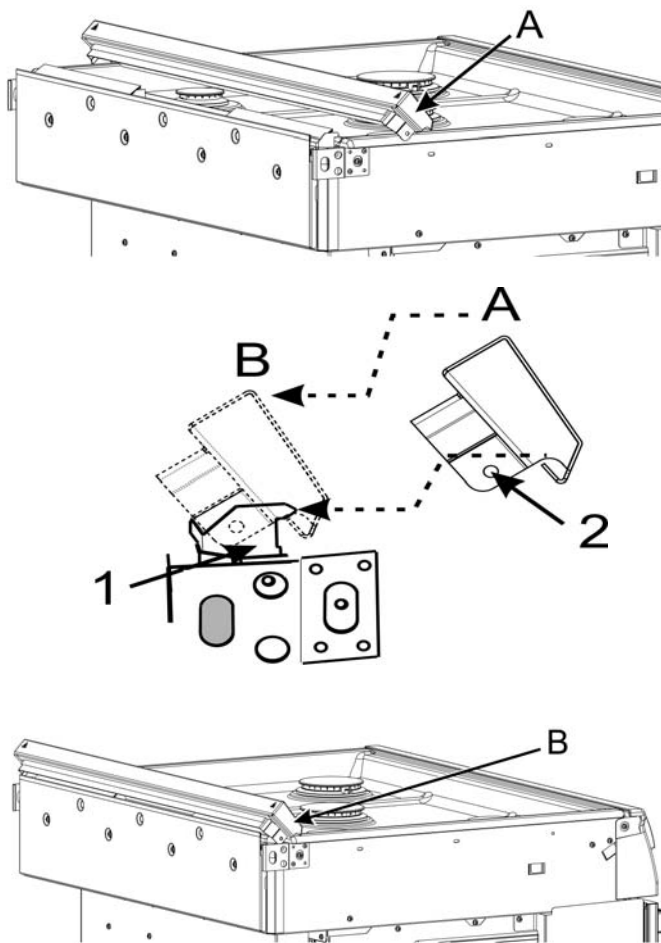

Figure 5: Island Trim placement 1
10. Place the Island Trim in position A (Figure 5: Island Trim placement 1) and move it to position B (towards the rear of the range) as shown to engage the alignment device 1 (the appearance of the device may not be exactly as shown).